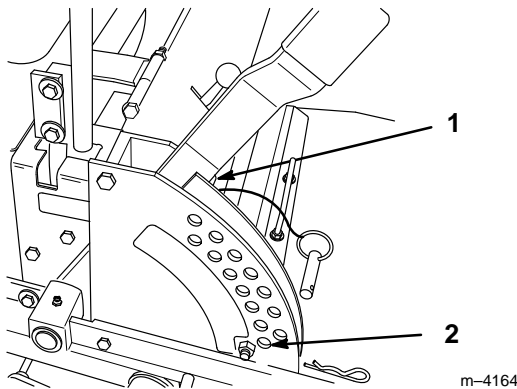

Figure 42
5. Place two 1-1/2" (38 mm) thick blocks under rear left and right lower edge of mower. Place one 2" (51 mm) block under front center lower edge of mower. Lower mower to the 1-1/2" (38 mm) height-of-cut position (Fig. 42).
1. Raise deck lift lever to the transport position, (Fig. 42).